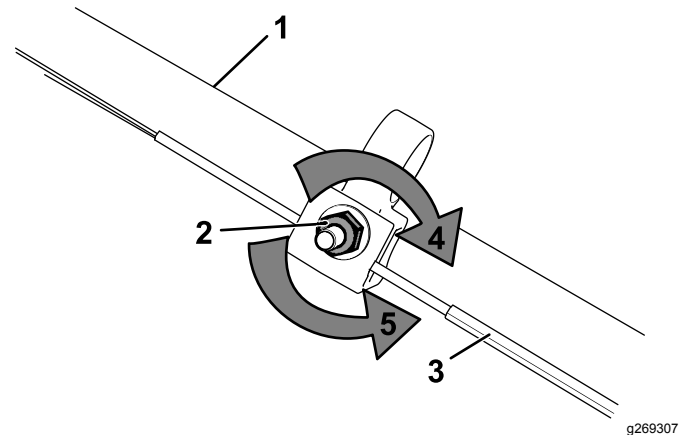

Figure 36
1. Turn the adjustment nut counterclockwise to loosen the cable adjustment (Figure 36).
2. Adjust the tension on the cable (Figure 36) by pulling it back or pushing it forward and holding that position.